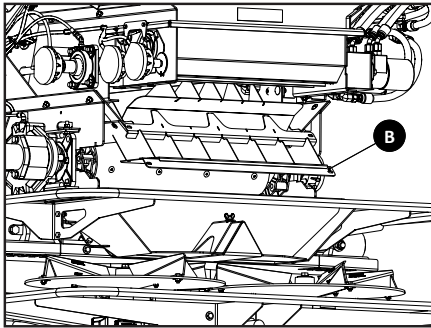

Figure 4A
4. Figure 4A - Slide Lower Divider (B) between bottom of MULTI BIN and Spinner Divider as shown.